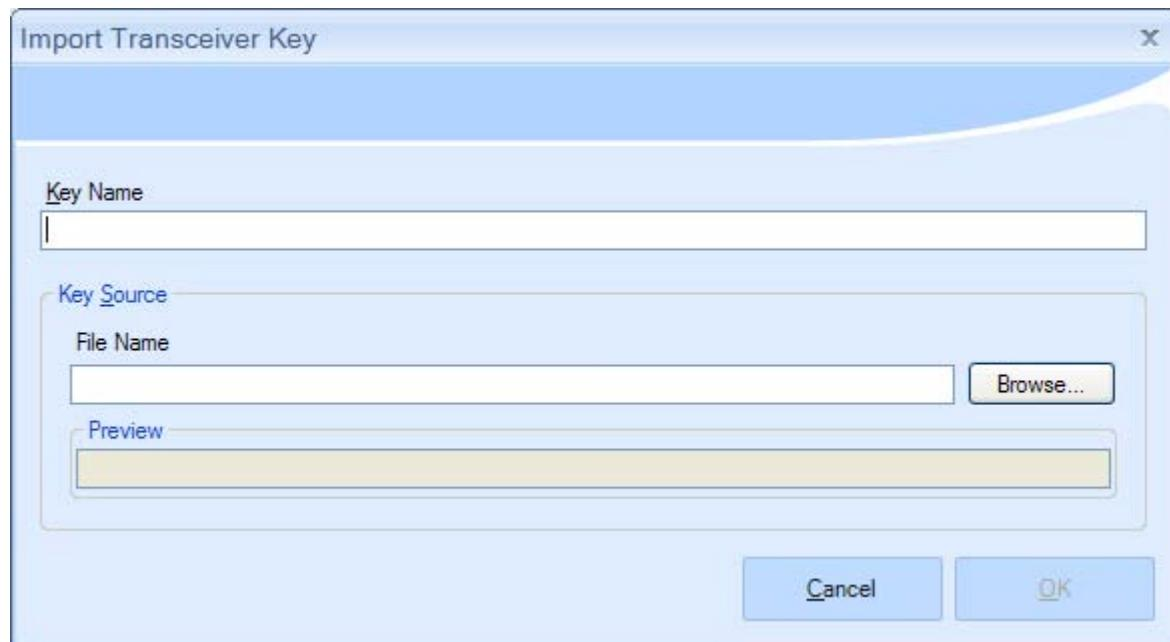

Figure 6
1. Select the “Import a Key” button. The Import Transceiver Key entry screen (Figure 6) will appear.
The “Device Status” screen (Figure 6) provides a snapshot of the technical specifics of the device that is connected, including: